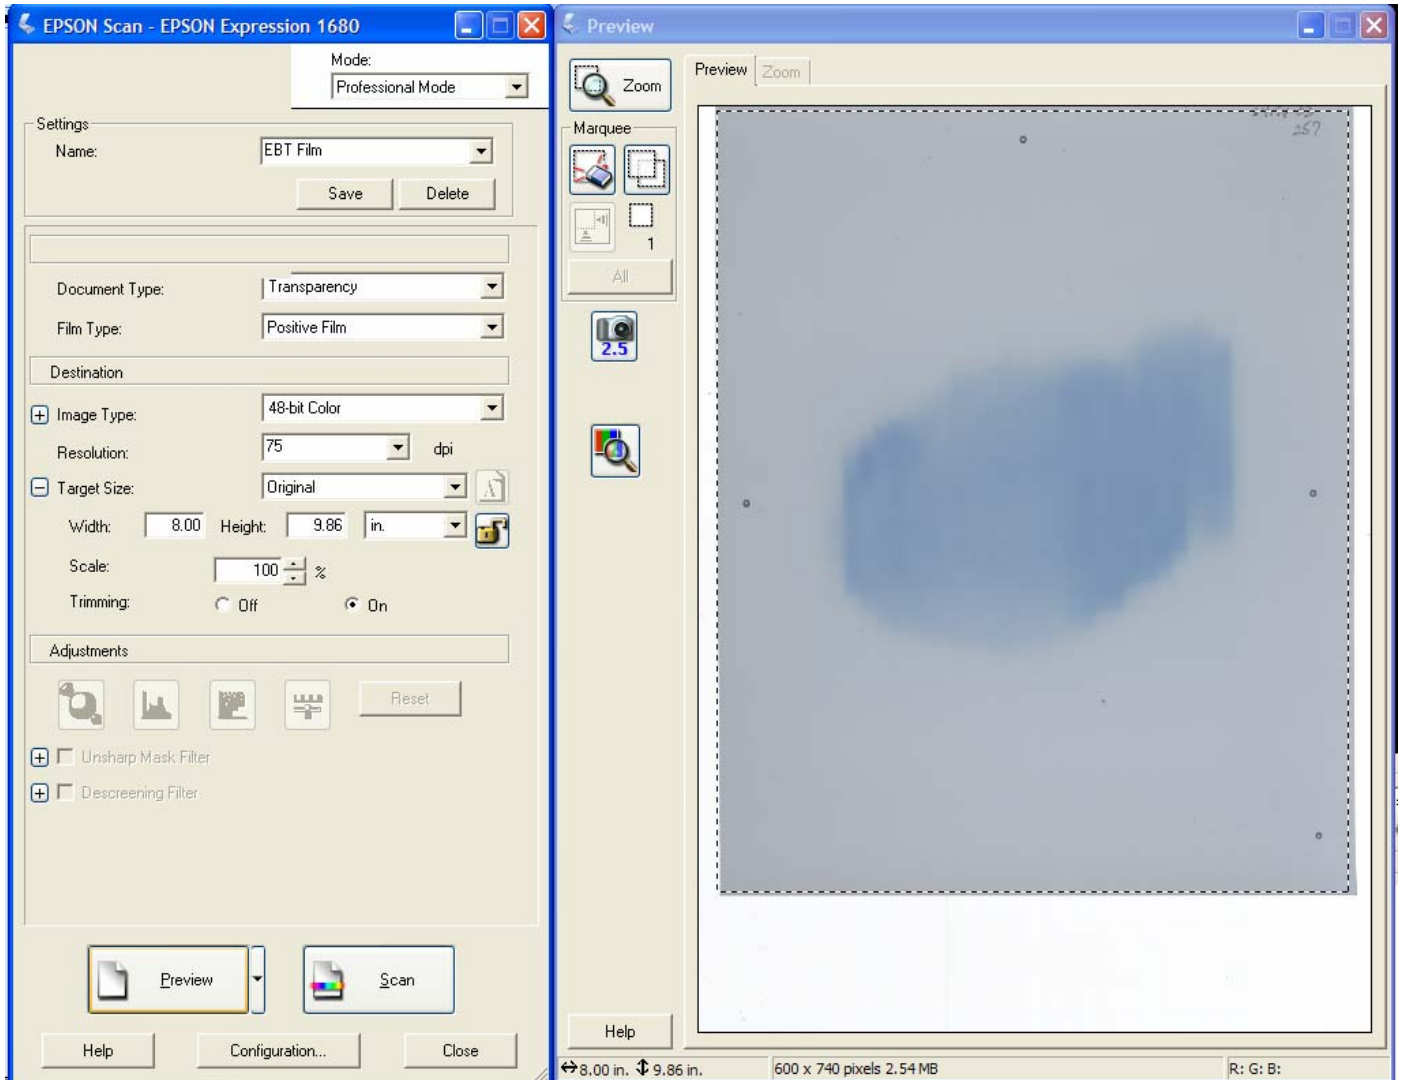

Figure 10
13. Place a film on the scanner and center it. Select “Preview” and obtain a scan. The image should appear within the outlined area in the preview window as shown in Figure 10. Once you are satisfied with the positioning you can close the “Preview” window and proceed to scan the set of exposed films as well as the unexposed films.